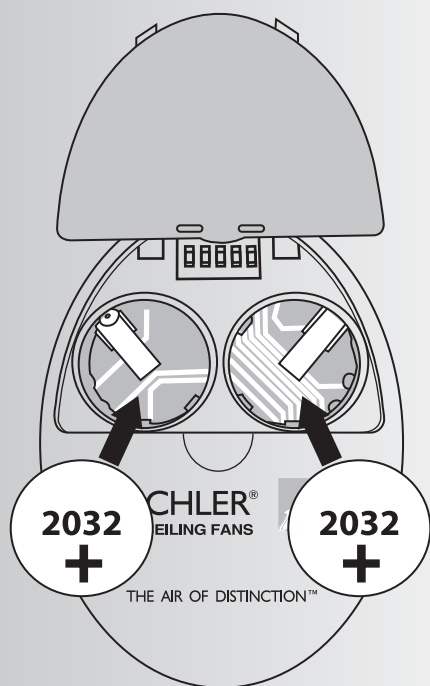

Fig. 21
2. Insert both batteries and make sure they are seated correctly in each recess with the Positive + sign facing up. Replace the battery cover. (Figure 21)